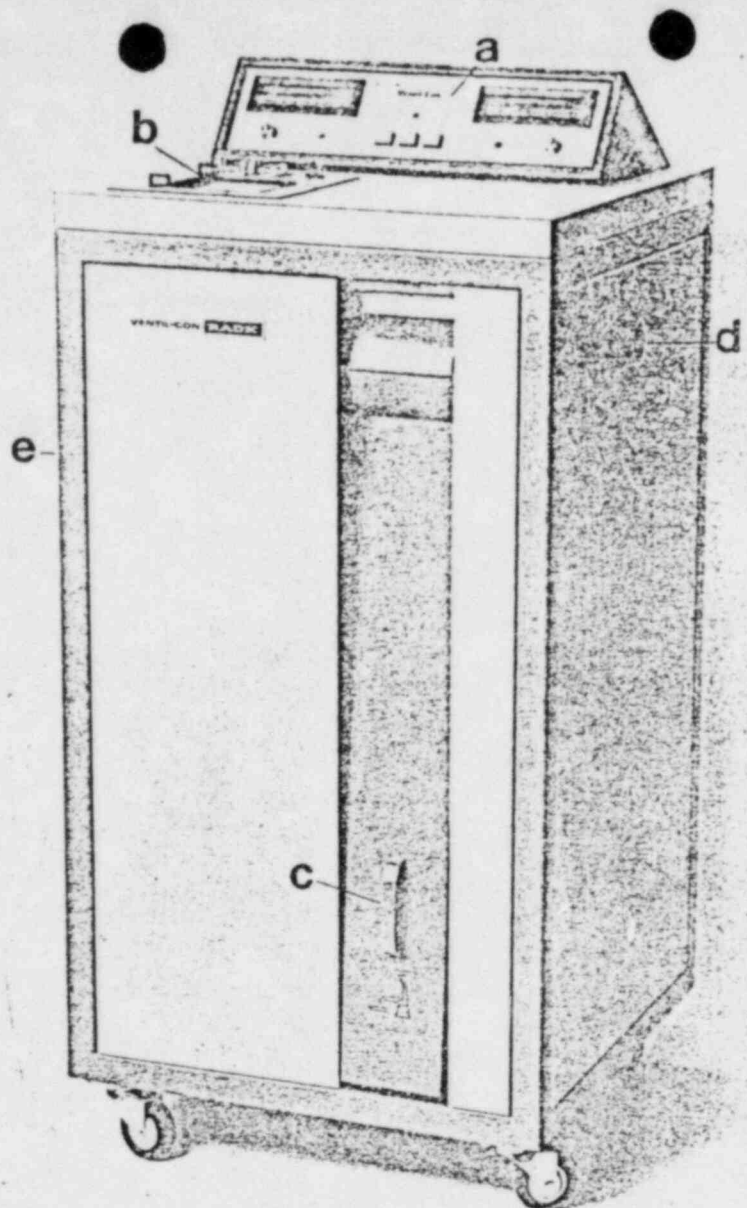

Figure 1. The Ventil-Con with dual channel strip chart recorder.
1.2.1 Console (Figure 1) - The Ventil-Con is completely self-contained, except for the oxygen supply, in a mobile, caster-mounted console. Each side panel and the rear panel are easily opened for convenient access to all interior
1.2.5.3. Strip Chart Recorder - An accessory to the Ventil-Con, the dual channel strip chart recorder, provides a permanent, continuous, analog record of the volumetric change of the spirometer diaphragm and the concentration of the gas/air mixture. (See Figure 1.)
NOTE: For purposes of orientation, as you look at the Ventil-Con, the "front" of the console houses the delivery arm, the "right side" houses the Luer-lock gas inlet valve (Figure 1), and the "left side" is the access door.